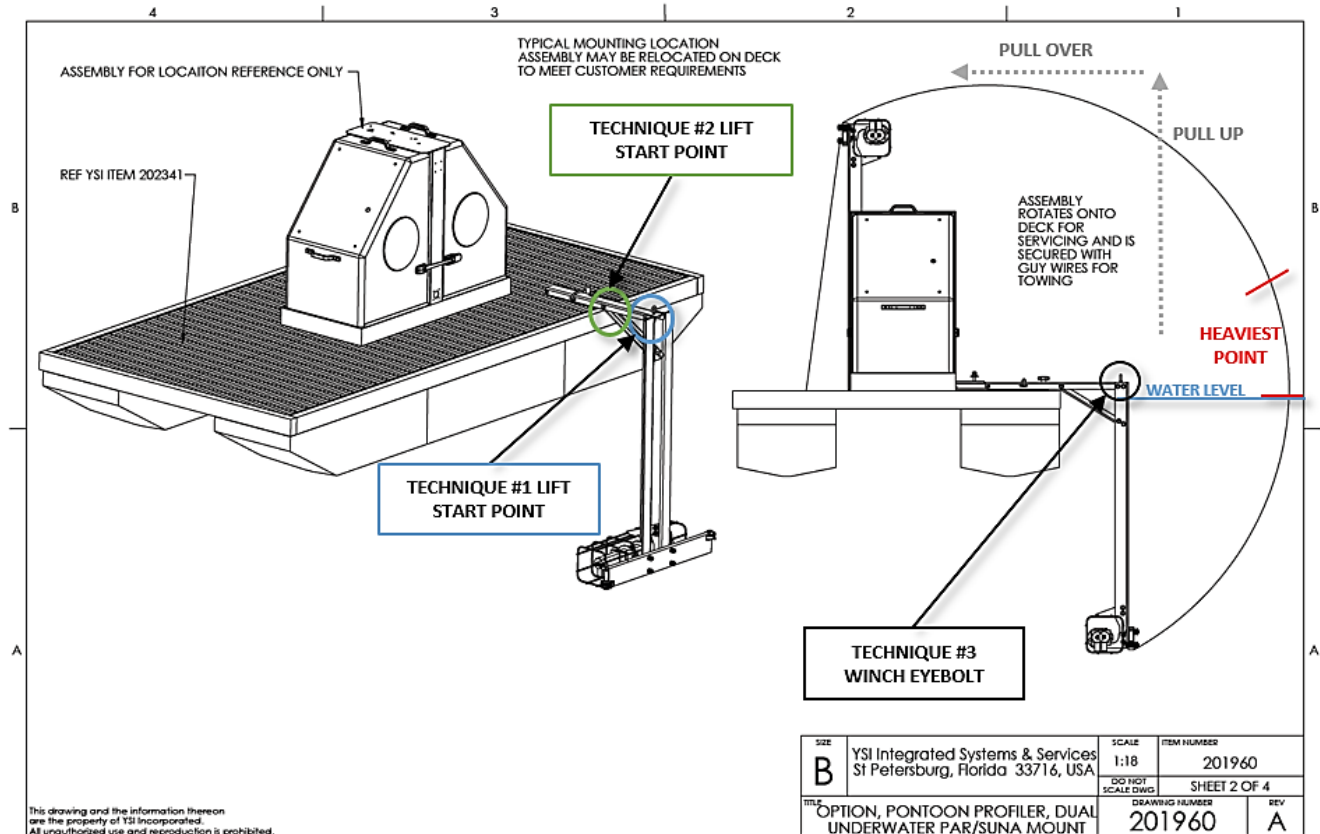

Figure 58. Dual PAR SUNA Mount Lifting Guidance
Technique #1: Squat down and grasp the metal part of the arm right where it joins to the composite arm that sticks into the water. See Figure 58 for start point reference. Apply a pulling force parallel to the composite arm –at first, pull straight up, but as the mount rises out of the water, pull more horizontal. Once the SUNA clears the water surface, have a spotter stand to the side to lend a hand when the mount becomes its heaviest. ***It is important, especially once the sensors are out of the water, to sink down and use your legs; making sure you engage core/leg muscles, instead of your back/arm muscles is key.*** (Source: Torey Ploeger)
Technique #2: Straddle the metal arm (feet close to the edge of the buoy) and grab the bracket with both hands to lift the mount up. See Figure 58 for start point reference. Lean back using your weight to
STEP 9 | Disconnect the guy-wires from the floating deck via their locking carabineers. Slowly lower the mount towards the water with the help of a spotter. **As soon as the mount hits the water, it significantly reduces in weight and requires a lot less effort to lower.** However, before reaching that point, the mount reaches its heaviest point, which may feel like it is going to pull you into the water. The mount, at its heaviest, is not far from the water (it should not be too far above the water, see Figure 58 above), so it is OK to let go of the mount if you feel you are losing control or if it is actually pulling you overboard.